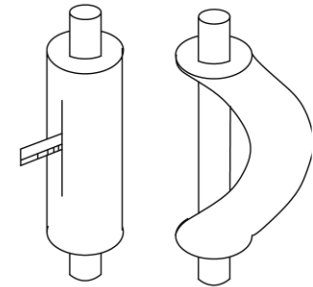

Fig. 12
- (2) Do not bend the pipe over 90° .
- (3) If pipe is repeatedly bent or stretched, it will get hard and difficult to bend and stretch again. Therefore, do not bend or stretch the bend for over 3 times.
- (4) In case that direct bending will open cracks to the pipe, first use sharp cutter to cut the insulating layer, as shown in Fig.12. Do not bend the pipe until it is exposed. When bending is done, wrap the pipe with insulating layer and then secure it with adhesive tape.